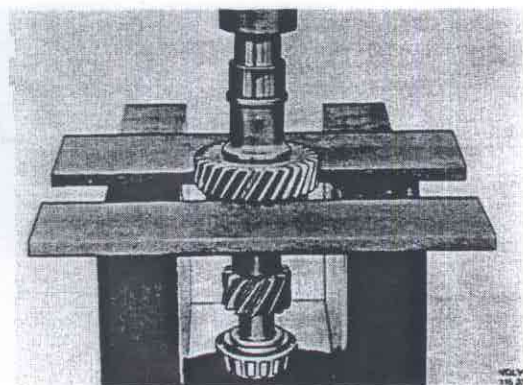

Fig. 43-73. Removing 3rd gear
2. Remove the circlip for 3rd gear and press of the gear, Fig. 43-73.